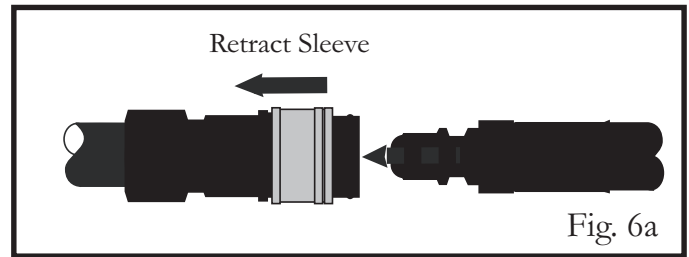

Fig. 6a
1. Push back the Sleeve on the Socket as shown below (see Fig. 6a).